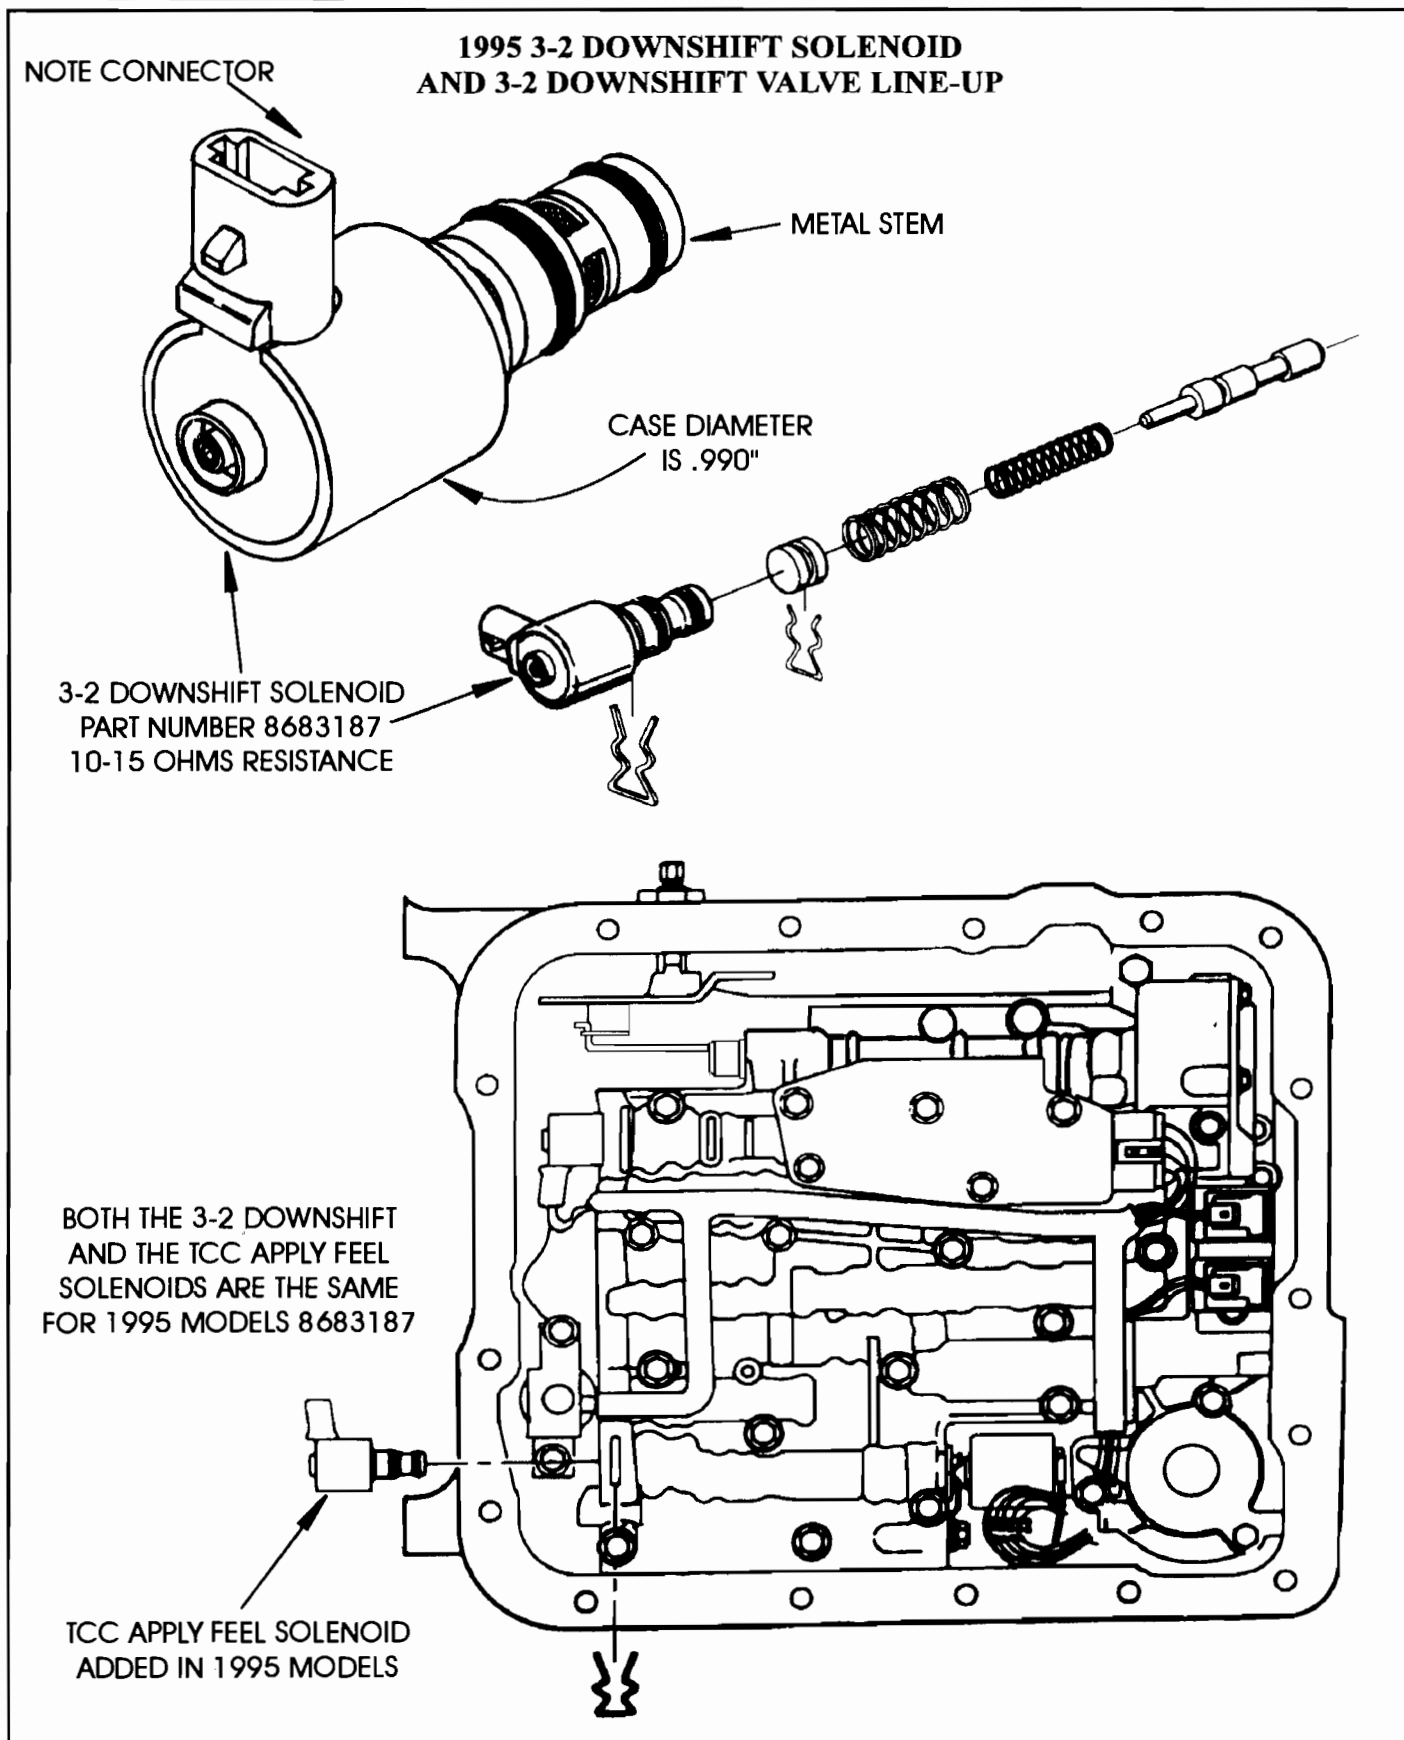

Figure 7
- (1) 3-2 DOWNSHIFT SOLENOID - Changes from a Pulse Width Modulated (PWM) solenoid to a regular "On-Off" (Normally Open) solenoid, which also requires a different Powertrain Control Module (PCM). The new design "On-Off" 3-2 downshift solenoid can be identified by the case diameter, which is smaller than the previous design, and the new design solenoid also has a **plastic** stem that fits into the valve body bore, where the previous design was **metal**. The solenoid connector was also changed to prevent the solenoids from being accidentally installed in the wrong models. Refer to Figure 7 for 1995 models, and Figure 8 for 1996 models.
- (2) 3-2 DOWNSHIFT VALVE - The entire 3-2 downshift valve line-up changes to accommodate the new design "On-Off" 3-2 downshift solenoid. Refer to Figure 7 for 1995 models, and Figure 8 for 1996 models.